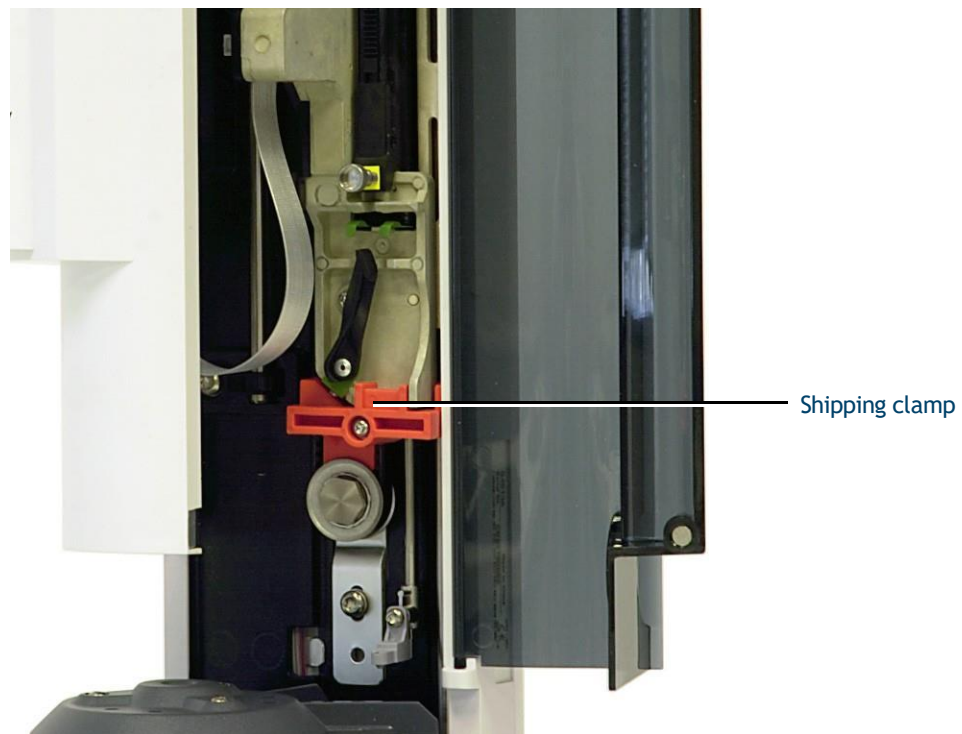
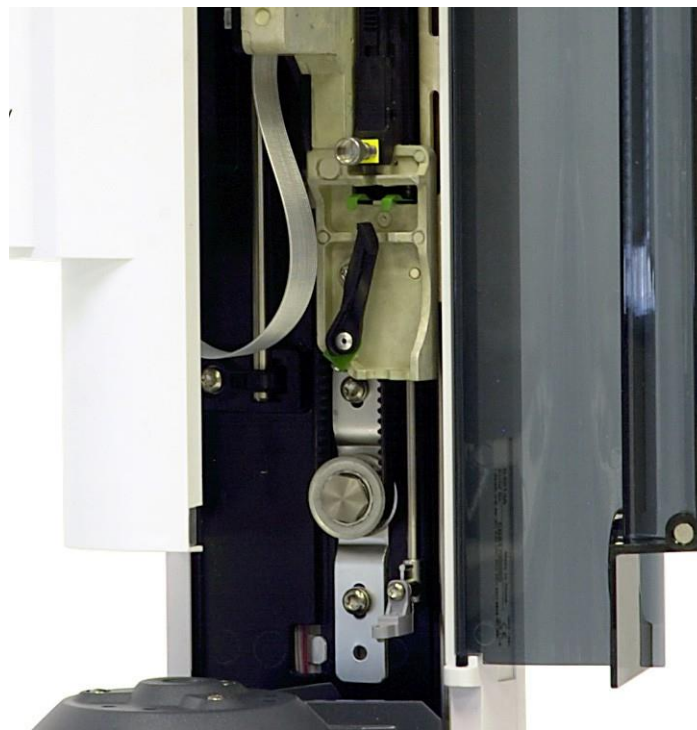

Figure 12. Shipping clamp installed.
Figure 13. Shipping clamp removed.
- 5 Using a T-10 Torx driver, completely loosen the T-10 screw and remove the shipping clamp from the syringe carriage (Figure 12 and Figure 13).